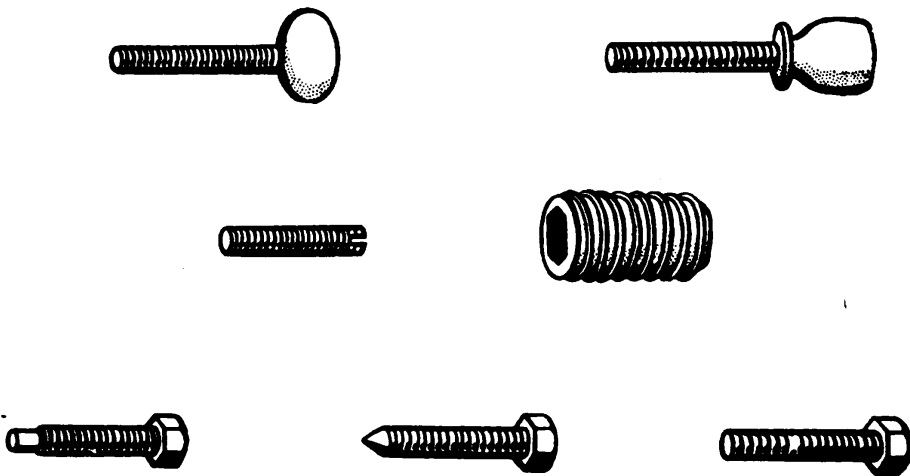

Figure 93.—Set screws and thumb screws.
Set screws hold best if they have either a CONE POINT or a DOG POINT, shown in figure 93. These points fit into matching recesses in the shaft against which they bear.
**THUMB SCREWS**, figure 93, are used for set screws, adjusting screws, and clamping screws. Because of their design they can be loosened or tightened without the use of tools.